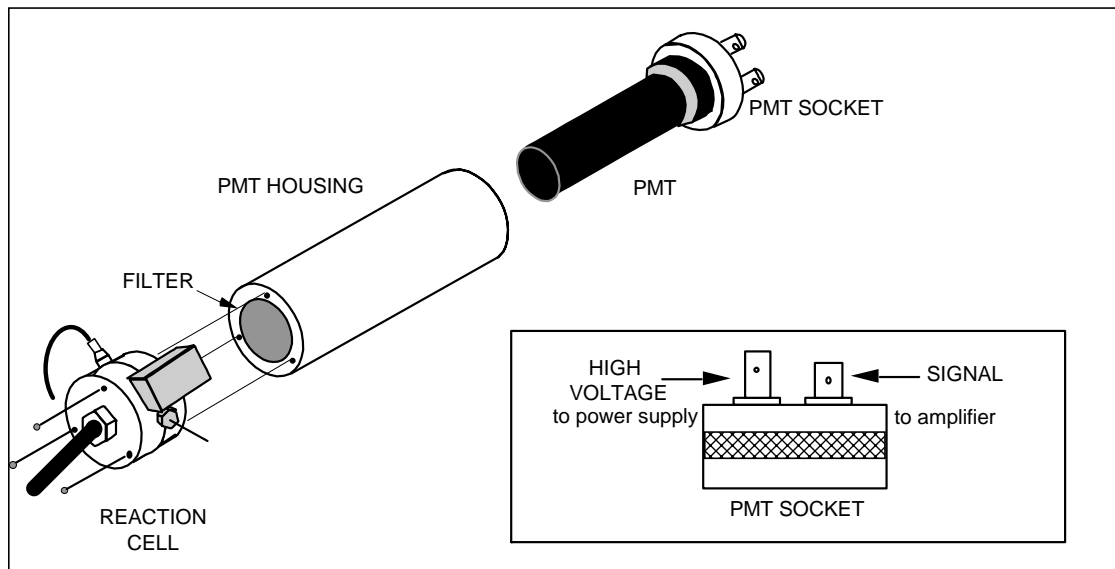

Figure 23 Reaction Cell, PMT Housing and PMT Socket
- 11 Reconnect the PMT high voltage cable to the MHV connector (longer connector) and the PMT signal cable to the BNC connector (shorter connector) at the back of the socket assembly (see Figure 23).